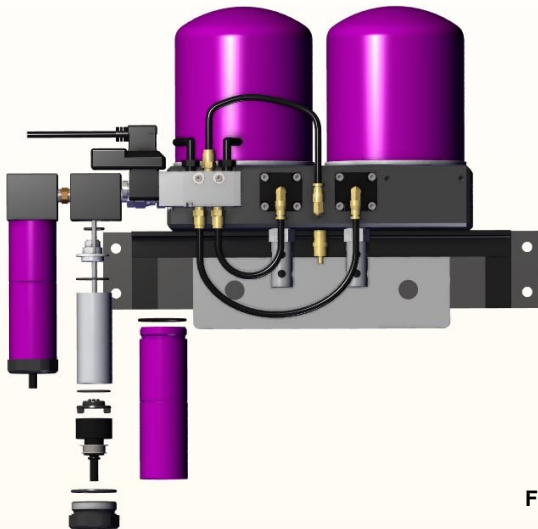

Figure 5
6. Remove bottom baffle, filter element, top adaptor, and O-ring. Figure 5